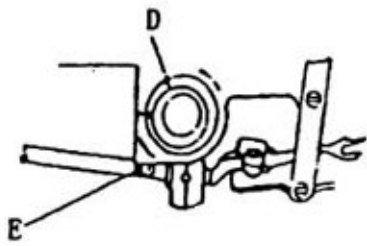

Fig. 21
- Loosen Bolt E, and move Eccentric Bushing D left and right. Tighten Bolt E again when the correct position is obtained. (Fig. 21)
a) Loosen Bolt E (Fig. 21) and turn Eccentric Bushing D till the clearance is obtained with the spreader at the right end.